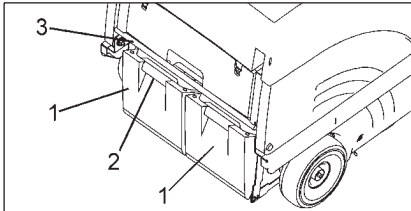

Fig. 11
- Fold bow (Fig. 11/3) up = the dirt hoppers (Fig. 11/2) are lowered.
- Use the recessed grip (Fig. 11/1) of one of the hoppers to lift it lightly and extract it.
- Re-insert dirt hopper (Fig. 11/2) and fold down the bow (Fig. 11/3).